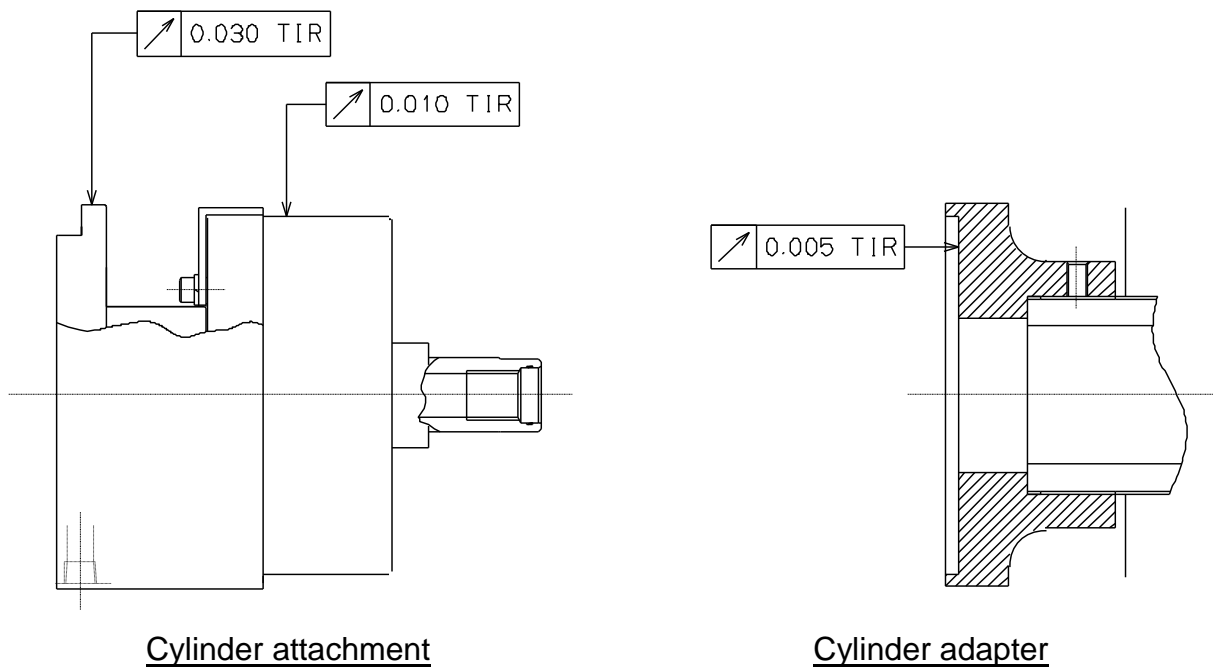

Fig.18
- As for the run-out when attaching the cylinder, attach the cylinder while keeping the vertical run-out of the sleeve cover rear end and the cylinder periphery at the standard value specified in the Fig.18 or lower when rotation stop of the sleeve cover is applied and the spindle is rotated.